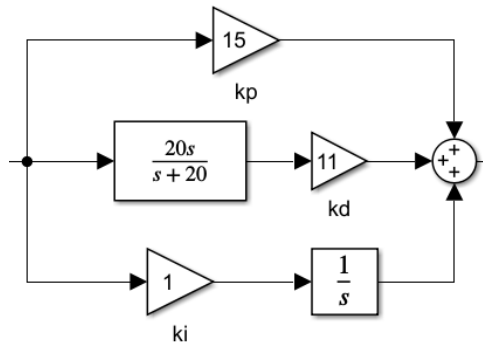

Figure 5: PID gains in a feedback loop
- The response should now approach the commanded value quickly and settle in a short time. However, even with a large proportional gain, the final position of the Aero 2 still differs from the command value by approximately 0.7 radians. To combat this steady-state error, keeping the proportional and derivative gains at the values identified in the previous step, add an integral gain  $k_i$  as well as an integrator in parallel with the other two gains as shown in Figure 5.